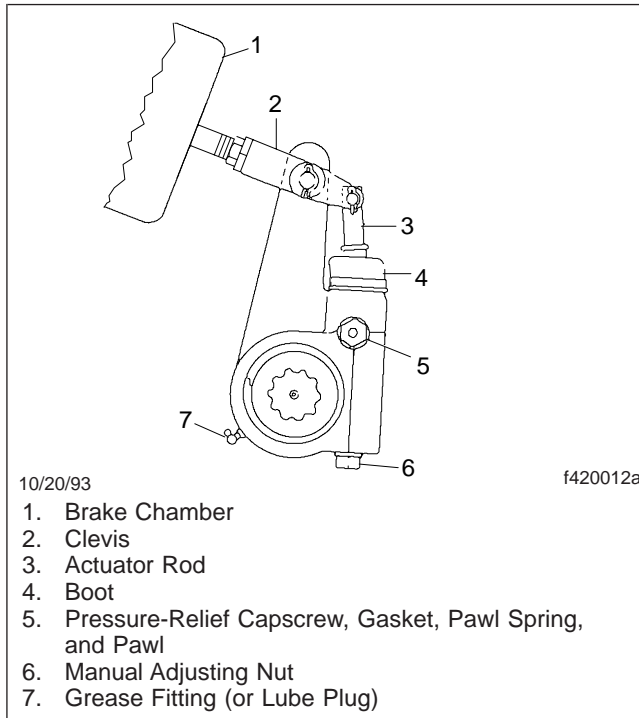
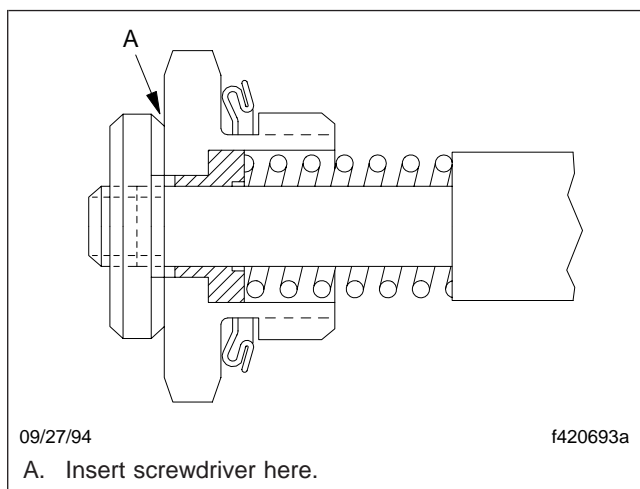

Fig. 1, Meritor Automatic Slack Adjuster
Fig. 3, Pull-Pawl Assembly (sectional view)
1. Lubricate the slack adjusters using high-temperature, water-proof grease NLGI grade 1, Texaco Thermotex EP 1, Shell Darina No. 1, Marathon 528 heavy-duty, Sunaplex No. 1 EP, Amdex No. 1 EP, or Philube B No. 1. It should be smooth-textured, corrosion-resistant grease, free of fillers and abrasives. See **Fig. 1**.
- 4.3 If the free-stroke is incorrect, remove the pressure-relief capscrew, gasket, pawl spring, and pawl from the slack adjuster housing. See **Fig. 1**, Ref. 5. If equipped with a pull-pawl assembly, carefully insert a screwdriver and raise the relief cap about 1/8 inch (3.2 mm). See **Fig. 3**.
- 5.3 The brake chamber stroke must be less than the measurements shown in Table 1. If the brake chamber stroke is incorrect, remove the pressure-relief capscrew, gasket, pawl spring, and pawl from the slack adjuster housing. See Fig. 1, Ref. 5. If equipped with a pull-pawl assembly, carefully insert a screwdriver and raise the relief cap about 1/8 inch (3.2 mm). See Fig. 3.